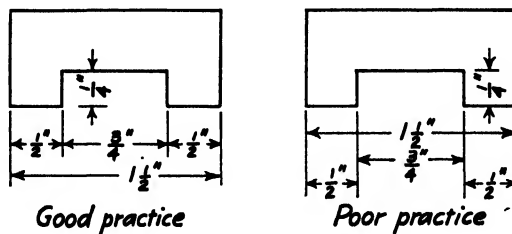

Fig. 2-13. Show a series of dimensions in a continuous line. Also indicate the over-all dimension and place it on the outside.
16. Where possible, show a series of dimensions in a continuous line (see Fig. 2-13), and always give the over-all dimension as well as the component or smaller dimensions which make up the total. Place the over-all dimension on the outside.